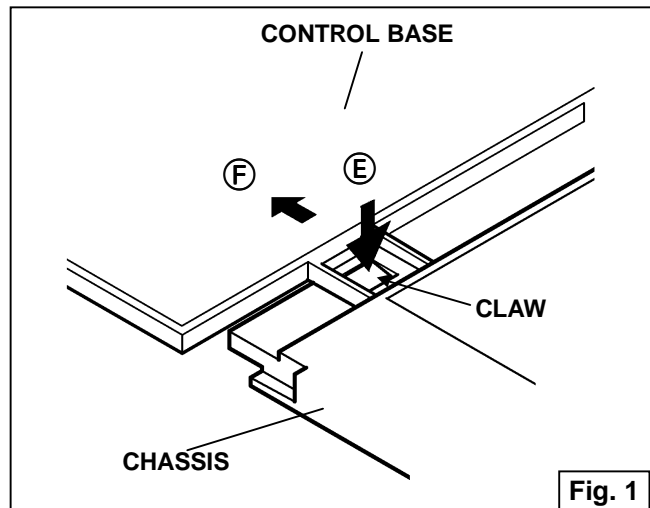

Fig. 1
1. As shown in Fig.1, while pushing down the claws marked **(D)**, remove the CONTROL BASE in the arrow direction **(E)**.